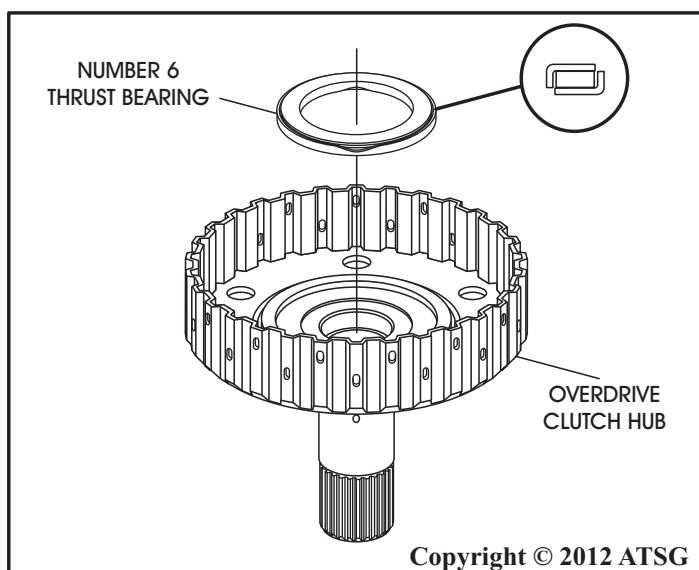

Figure 134
3. Install the number 6 thrust bearing in direction shown in Figure 134, and retain with a small amount of Trans-Jel®.